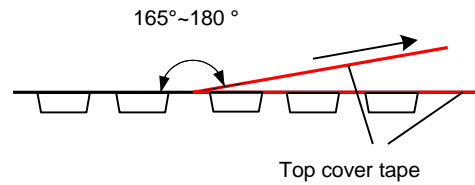

Fig. 9.1.4-1
- Peel-off angle: 165°~180° refers to Fig.9.1.4.